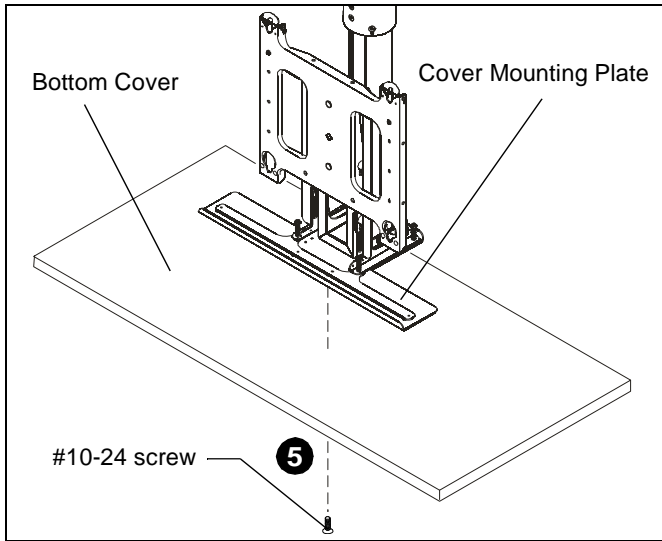

Figure 25
- Assemble bottom cover to cover mounting plate using #10-24 screws a minimum of 1/4" plus the thickness of the cover material long. (not provided). (See figure 25)